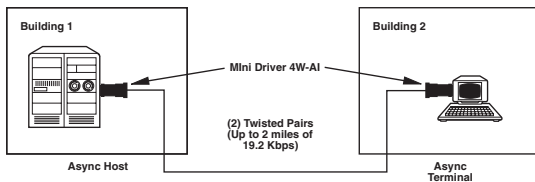

Figure 1. Typical Application for Mini Driver 4W-AI
- **Mini Driver 4W-AI (ME762A)** — designed for use on premises (within a building, between buildings, etc.). Figure 1 shows the Mini Driver 4W-AI in a typical application.